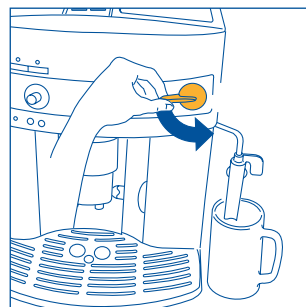

Fig.5
3. **IMMEDIATELY AFTER, WITHIN A MAXIMUM OF 30 SECONDS**, turn the steam knob counter-clockwise until it stops (Fig.5) (it is normal for the machine to make some noise).
- Turn the steam knob half a turn in counter-clockwise until it stops (Fig. 5): hot water will come out of the milk frother and start to fill the container underneath.
- Release a little steam for a few seconds by turning the steam knob counter-clockwise until it stops (Fig. 5).